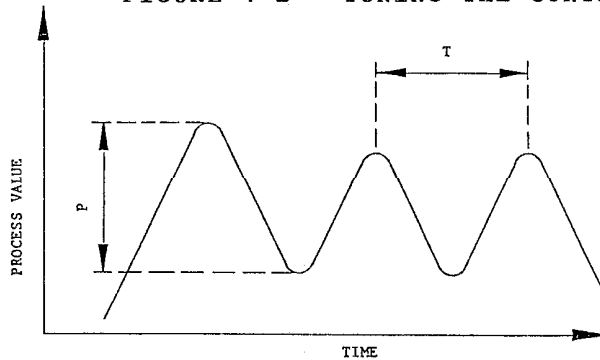

FIGURE 4-3 OPTION 2 SETTING-UP PROCEDURE
- (a) The peak-to-peak variation (P) of the first cycle (i.e. the difference between the highest value of the first overshoot and the lowest value of the first undershoot).
- (b) The cycle time (T) of this oscillation in minutes (see Figure 4-3).